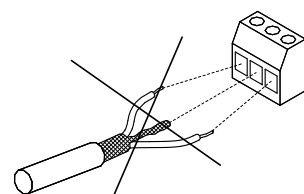

**Fig. 154** Do not twist the screen ends
- Avoid terminating the screen by twisting the ends. See fig. 154. Use cable clamps or EMC screwed cable entries instead.